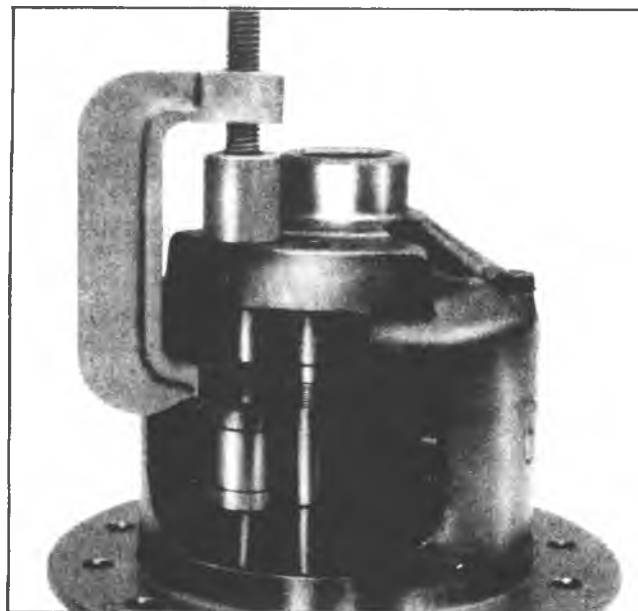

Fig. 4B-5H—Bearing Puller J-26252
2. Using bushing puller tool No. J-26252, remove governor assembly and latching bracket by pulling the retaining bushings as shown in Figure 4B-5H. Pull the latching bracket spring out of the way while pulling the governor assembly bushing to prevent damage. Remove the stop pin by driving through the case with a drive pin punch.